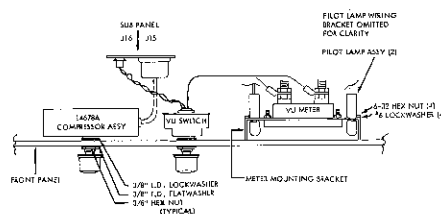

Figure 9. Installation of Compressor and VU Meter Assemblies
3. Install accessory in hole from rear side of front panel, as shown in Figure 9, using mounting hardware supplied. The lockwasher should be adjacent to inward side of panel and flatwasher should be next to front surface of panel and secured with 3/8" I.D. hex nut. The mounting hole contains a key slot for properly locating assembly.
4. Install VU meter in meter mounting bracket, as shown in Figure 9, and secure with four No. 6 washers and hex nuts supplied.
6. Install VU meter switch assembly in VU METER switch-mounting hole from rear side of front panel, as shown in Figure 9, using mounting hardware supplied. The lockwasher should be adjacent to inward side of front panel and flatwasher should be next to front surface of panel and secured with 3/8" I.D. hex nut. The mounting hole contains a keyslot for properly locating assembly.